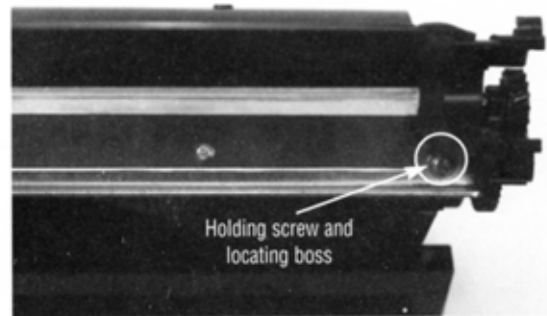

FIG 16
1. Remove the doctor blade and clean it using dry, filtered compressed air and/or a dry, lint-free cloth. (Figure 16)